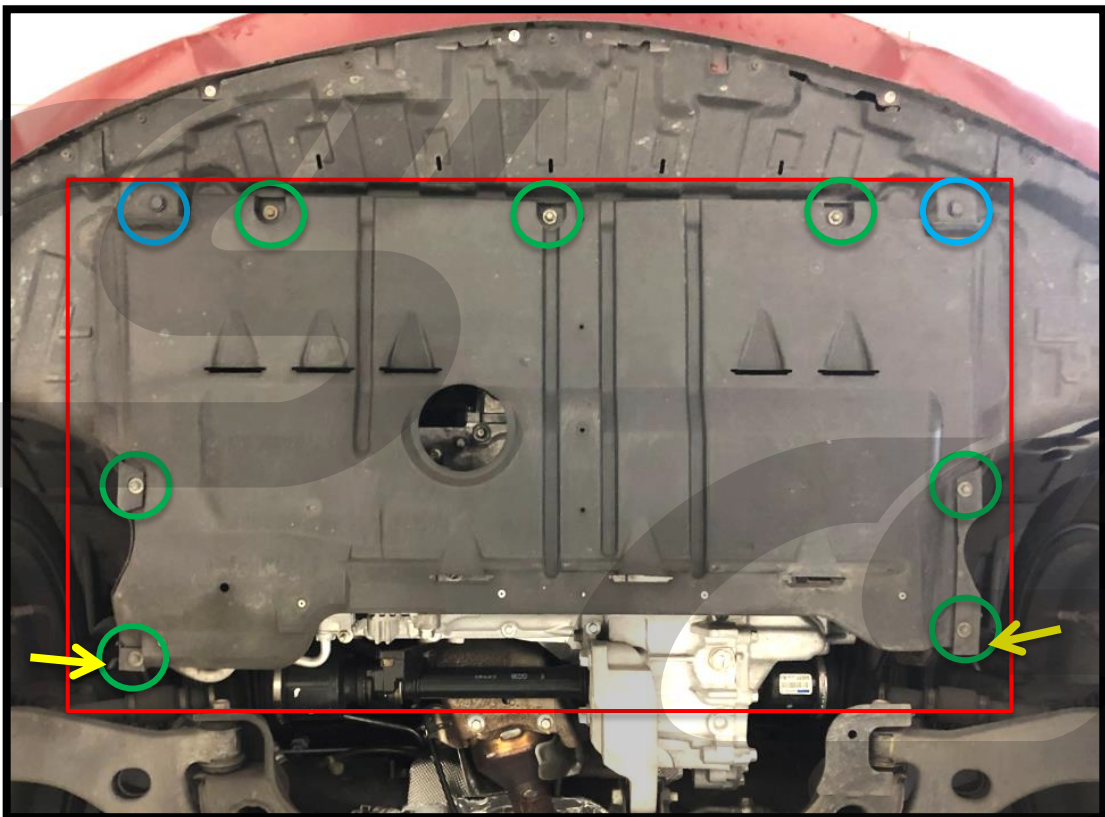
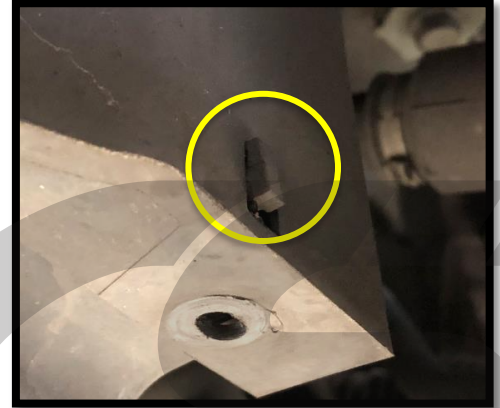

Figure 1a
Figure 1b
- b) Locate the rear section of the OEM splash shield. Shown with red square in **Figure 1a**.
- c) Remove two (2) push clips from the OEM splash shield using a flat head screwdriver or push clip removal tool.. Shown circled in blue in **Figure 1a**.
- d) Remove seven (7) 10mm bolts from the OEM splash shield using a 10mm socket and ratchet. Shown circled in green in **Figure 1a**.
- e) Locate the small plastic tab in the corner of each side of the rear OEM splash shield section. See the **yellow circle** in **Figure 1b** and the **yellow arrows** in Figure 1a.